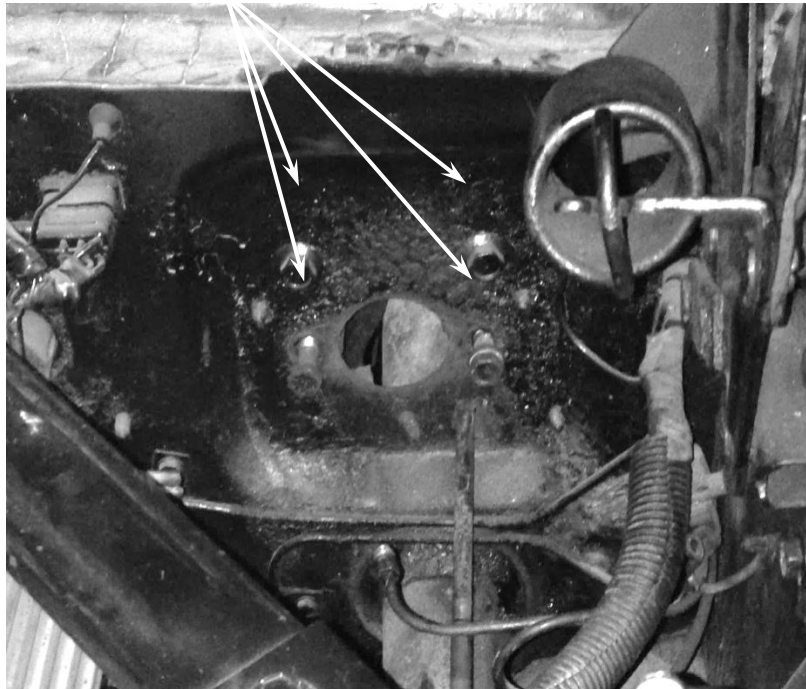

Figure 1 – Location of the Factory Nuts to be Enlarged
2. With everything removed, the factory threaded nuts in the pedal support must be drilled out to accept the stud plates. To begin, with the upper bolts still in place, use a 3/8" drill bit and drill each of the factory nuts at the master cylinder location. Once those have been drilled, remove the upper bolts and repeat the same for each of those bolts. The firewall showing the location of each nut can be seen below in Figure 1.